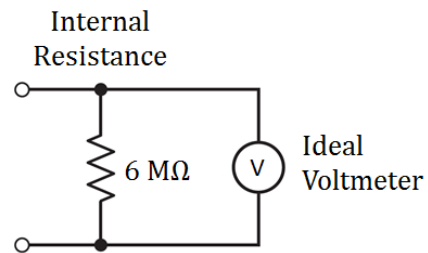
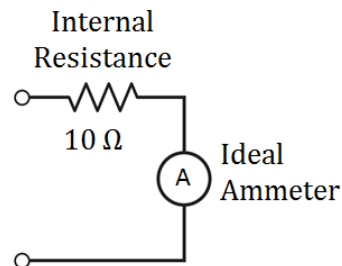

Fig. 1. Equivalent circuit for the practical voltmeter
Fig. 2. Equivalent circuit for the practical ammeter
2. Draw equivalent circuits for the voltmeter and ammeter functions of the multimeter as in Fig. 1 and Fig. 2. Use the correct resistor value or a correct estimate.
3. The types of equivalent circuits shown in Fig. 1 and Fig. 2 are better for our purposes than the circuit diagram of the multimeter made out of a galvanometer. Why?